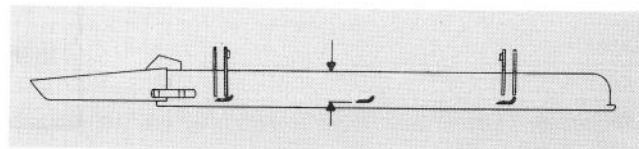

Figure 11
1. Rotate blade until the ends face forward and backward (Fig. 11). Measure from inside of cutting unit to cutting edge at front of blade (Fig. 11), and remember this dimension.